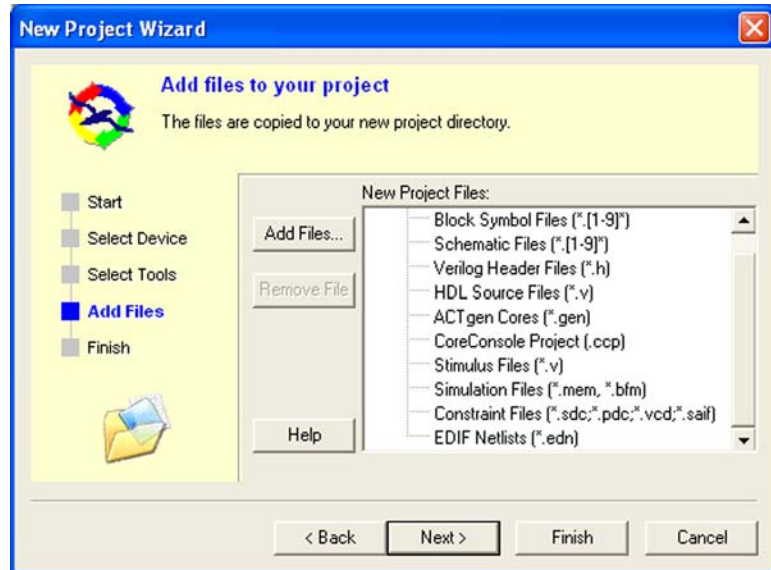

Figure 5-19. Add Files in the Libero IDE New Project Wizard
12. Click **Add Files** in the New Project Wizard to add existing project design files. Include any ACTgen cores, CoreConsole Projects, Block Symbol, Schematic, Verilog Source, Implementation, or Stimulus files (Figure 5-19).